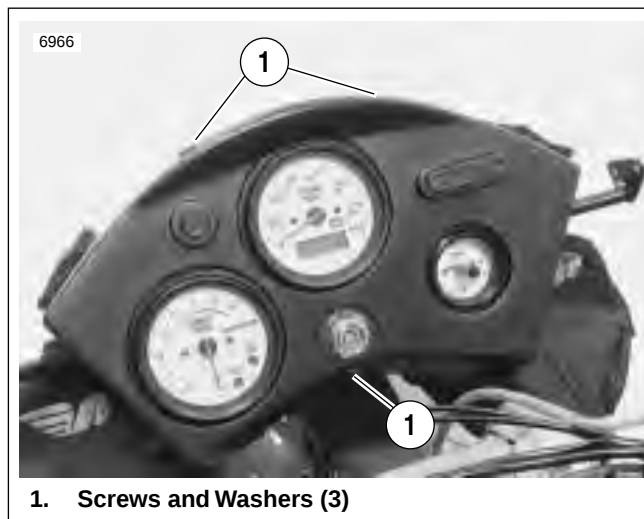
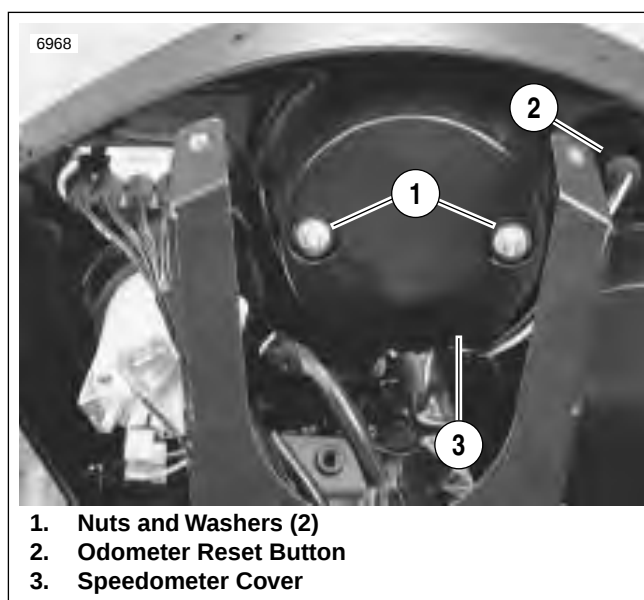

Figure 7-57. Dash Panel (Front)
Figure 7-59. Dash Panel (Back)
- a. See Figure 7-57. Pry off plastic grommet from front of odometer reset button.
3. See Figure 7-59. Remove three screws and plastic washers (1) holding dash panel to front fairing bracket. Pull dash panel upward, but do not damage wiring.
4. See Figure 7-57. Remove two nuts (metric) and lock-washers (1) from speedometer cover (3).
5. Slide speedometer cover (3) away from speedometer.
- a. See Figure 7-59. Install odometer reset button (2) from back side of dash panel.
5. See Figure 7-59. Install speedometer cover (3).
- c. Fasten cover (3) to speedometer using two nuts (metric) and lockwashers (1).
6. See Figure 7-57. Position dash panel on front fairing bracket.
7. Attach dash panel using three screws and washers (1). Tighten screws to 7-9 ft-lbs (10-12 Nm).